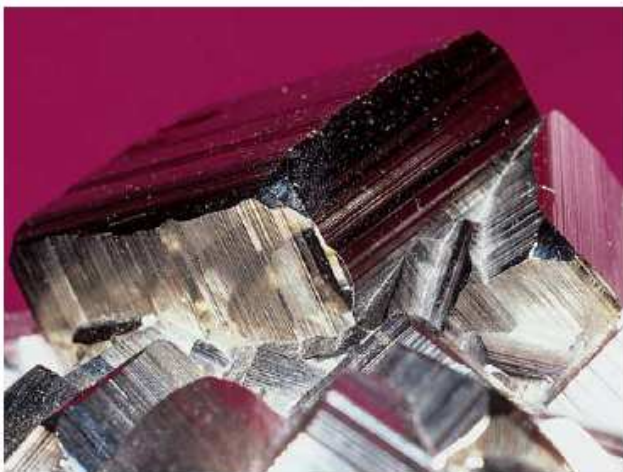

FIGURE 10.8
- (1) crystalline solids, those with a highly regular arrangement of their components, and
- (2) amorphous solids, those with considerable disorder in their structures
- see Figure 10.8